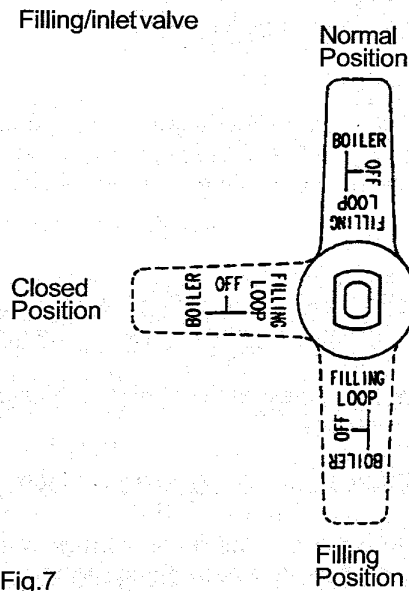

Fig.7
- (iii) Vertically down - Filling position. See fig. 7. To fill slowly turn the handle of the filling/inlet valve past the closed position towards the filling position. Mains water will be heard to enter the system/boiler. As the water enters the system/boiler the pressure gauge will be seen to rise. Pressurise to between 1bar & 1.5bar when the system is cold.